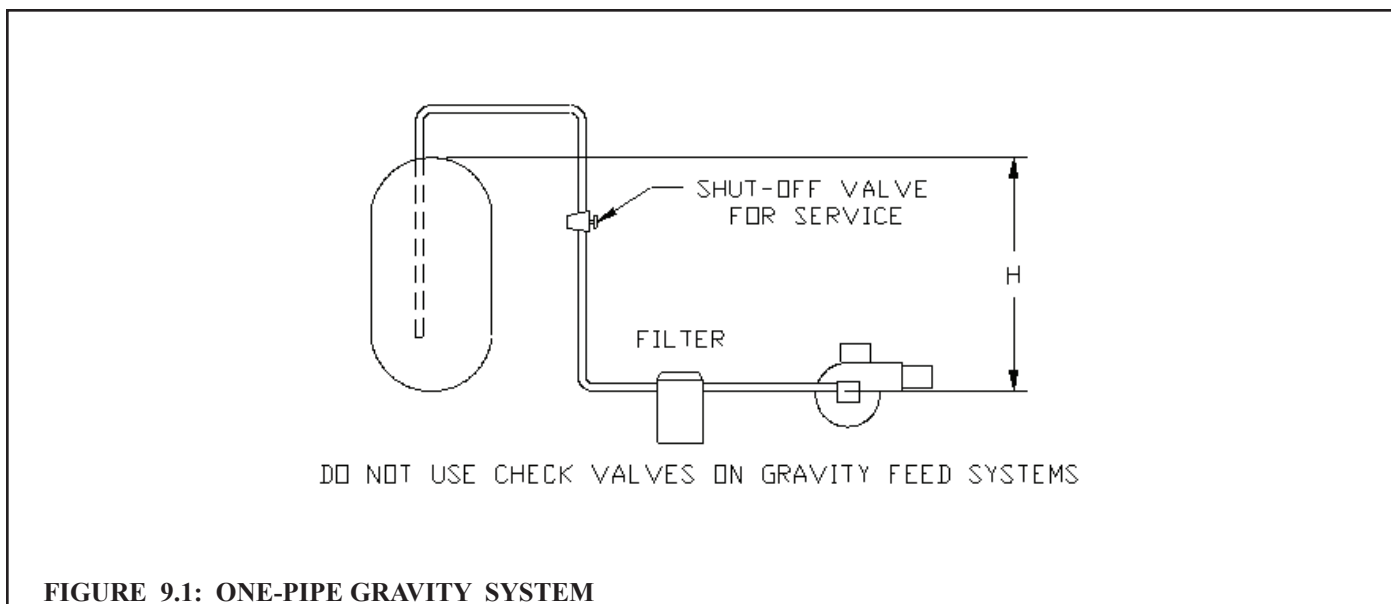

FIGURE 9.1: ONE-PIPE GRAVITY SYSTEM
- a) ONE-PIPE GRAVITY SYSTEM - used when a fuel oil storage tank is positioned above an oil burner fuel pump. See Figure 9.1. A vertical distance from top of the tank to center line of the pump (Dimension 'H') over 8 feet will result in a pump inlet pressure in excess of the 3-psi limit in NFPA-31.